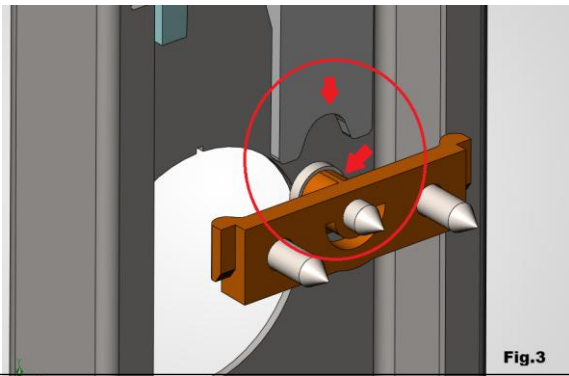

Fig. 3 — Insertion of the tailpiece into the upper bracket
2. Insert the tailpiece into the corresponding engagement slot on the upper bracket (Fig. 3).